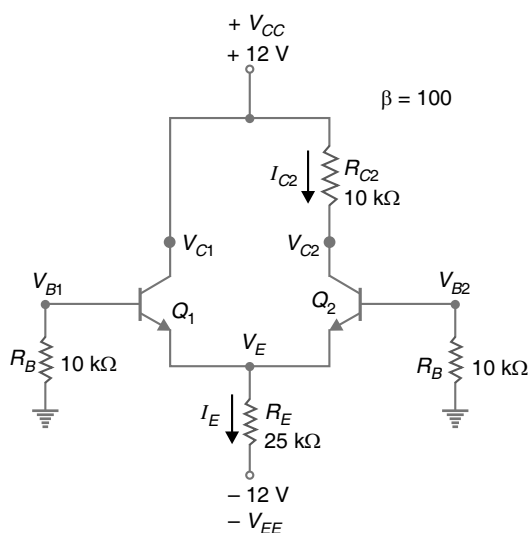

Fig. 23.16
**Example 23.6.** Find the bias voltages and currents for the differential amplifier circuit shown in Fig. 23.16.